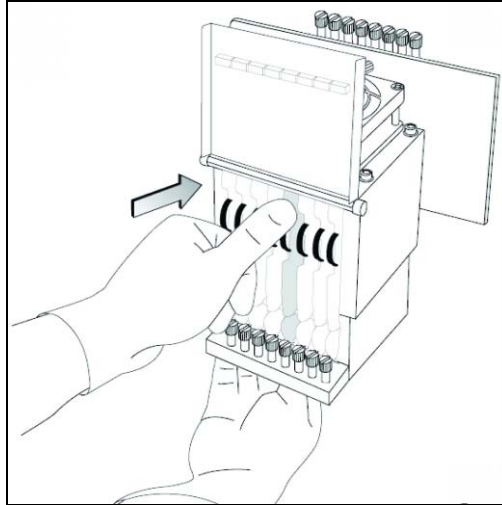

Figure 6-64: Inserting the print-head driver card into its socket
- Re-insert the print-head driver card into its socket (see figure 6-64 on page 45).